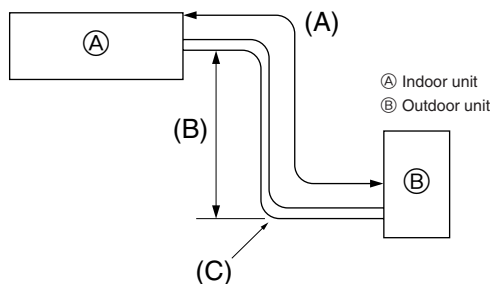

Fig. 5-1
5.1. Refrigerant pipe (Fig. 5-1)